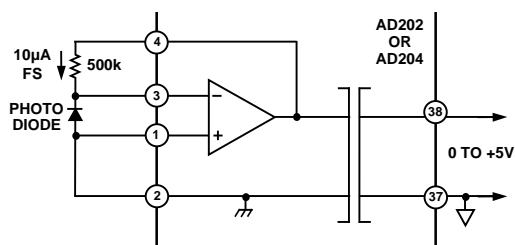

Figure 22. Photodiode Amplifier
**Photodiode Amplifier.** Figure 22 shows a transresistance connection used to isolate and amplify the output of a photodiode. The photodiode operates at zero bias, and its output current is scaled by  $R_F$  to give a +5 V full-scale output.